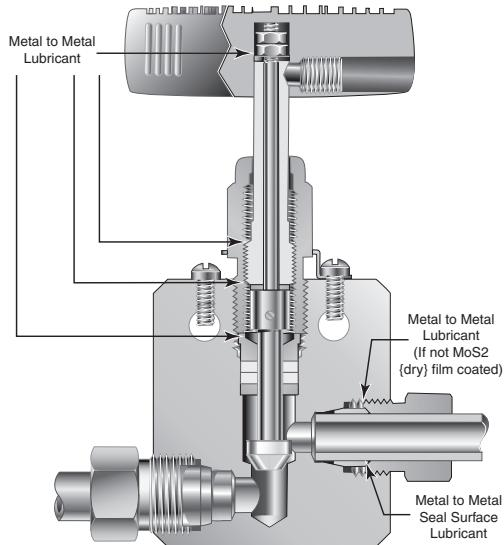

Figure 1
**2. Hand Valves** - Ideally, the non-rotating stem should be lubricated along the shank that fits into the threaded stem sleeve as well as on the surfaces that are in contact with the stem washers. The threaded stem sleeve should be lubricated on the stem threads and at the ends (see Figure 1). The packing gland should be lubricated on the external threads and on the end that is in contact with the packing washer. For valves with replaceable seats, the external threads on the seat retainer and the portion of the seat retainer in contact with the seat should be lubricated.